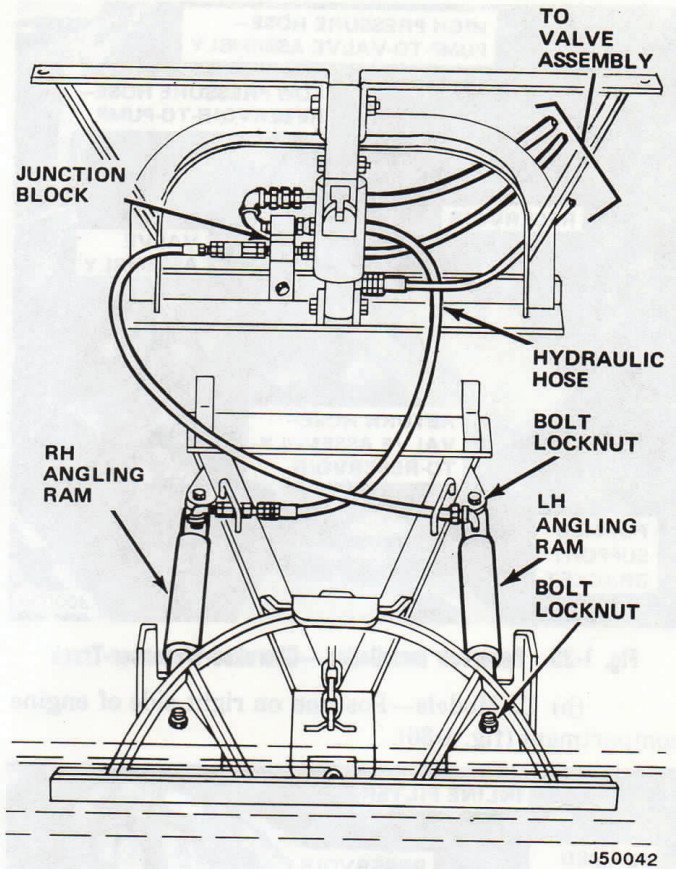

Fig. 1-41 Angling Ram and Hose Installation
(18) Route hoses from lift cylinder and junction block through grommets in front end sheet metal to valve assembly and connect.
(19) Install angling rams on A-frame and sector assembly (fig. 1-41).
(20) Install two nipples, one into right angling ram and one into bottom of junction block.
(21) Install 90-degree elbows on angling rams.
(22) Install couplers, one to nipple on right angling ram and one to nipple on valve block.